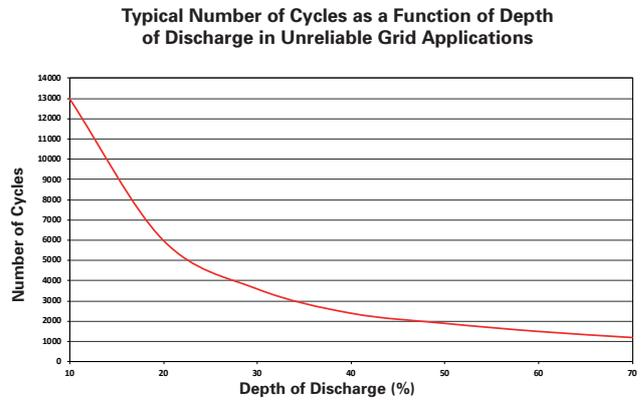

Figure 4
**Figure 4** indicates the cyclic capability in a typical unreliable grid application. Note, actual life obtained is dependent on site conditions.